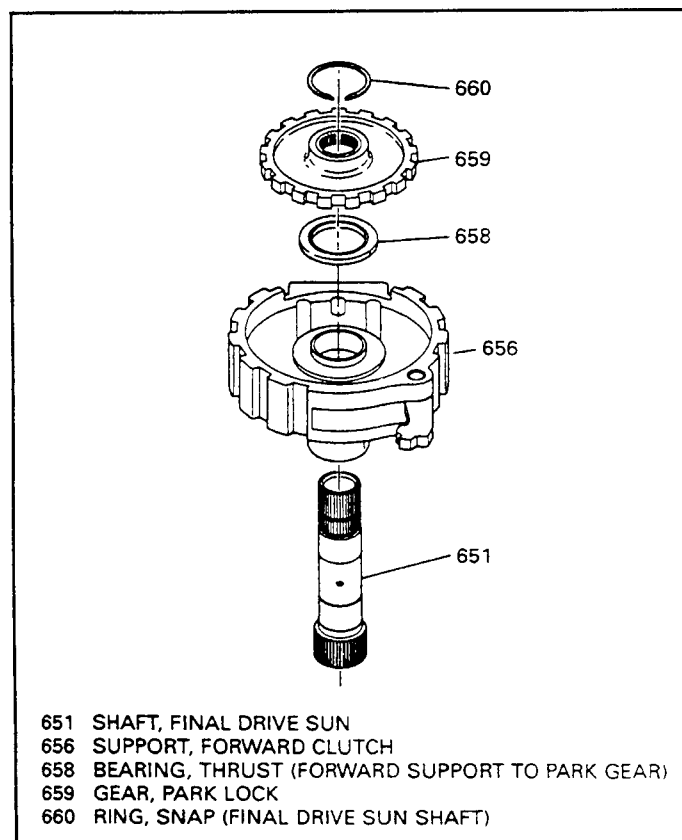

Figure 108
2. Assemble the forward clutch support onto the final drive sun gear shaft (See Figure 108).
3. Install the thrust bearing (658) onto forward clutch support as shown in Figure 108.
4. Install the parking pawl gear (659) onto final drive sun gear shaft with the raised inner boss facing up, so that the parking pawl properly engages the teeth on gear (See Figure 108).
5. Install the snap ring onto final drive sun gear shaft to retain parking gear (See Figure 108).